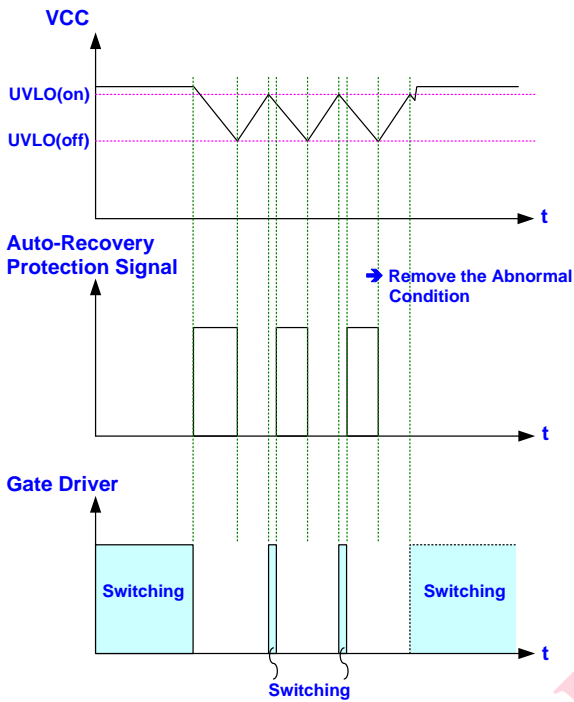

Fig. 15
As auto-recovery protection circuit latches the operation, the gate output will switch for a short term as every time VCC rises back to UVLO(ON). It therefore forces the VCC hiccup between UVLO(ON) and UVLO(OFF). As soon as the fault condition is removed, the system will resume its operation right away. Fig. 15 shows the operation.